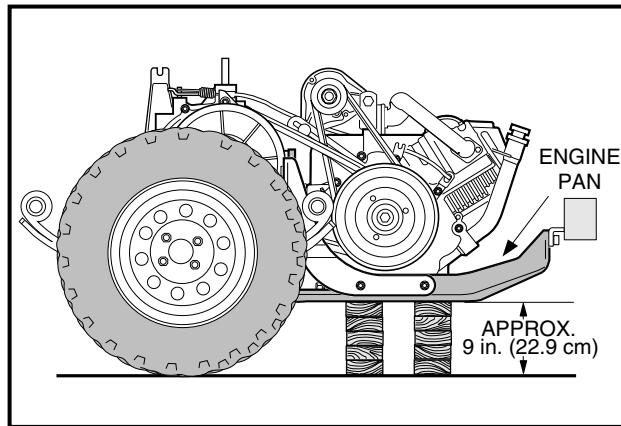

Figure 16-31 Position Powertrain
15. Place blocks under the engine pan so they will completely support the engine and keep it level to the floor (**Figure 16-31, Page 16-14**). **See following NOTE.**